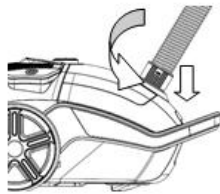

Fig. 1
1. Connect the hose accessory: insert the hose end into the hose socket at the front cover and then hook it (Fig 1).